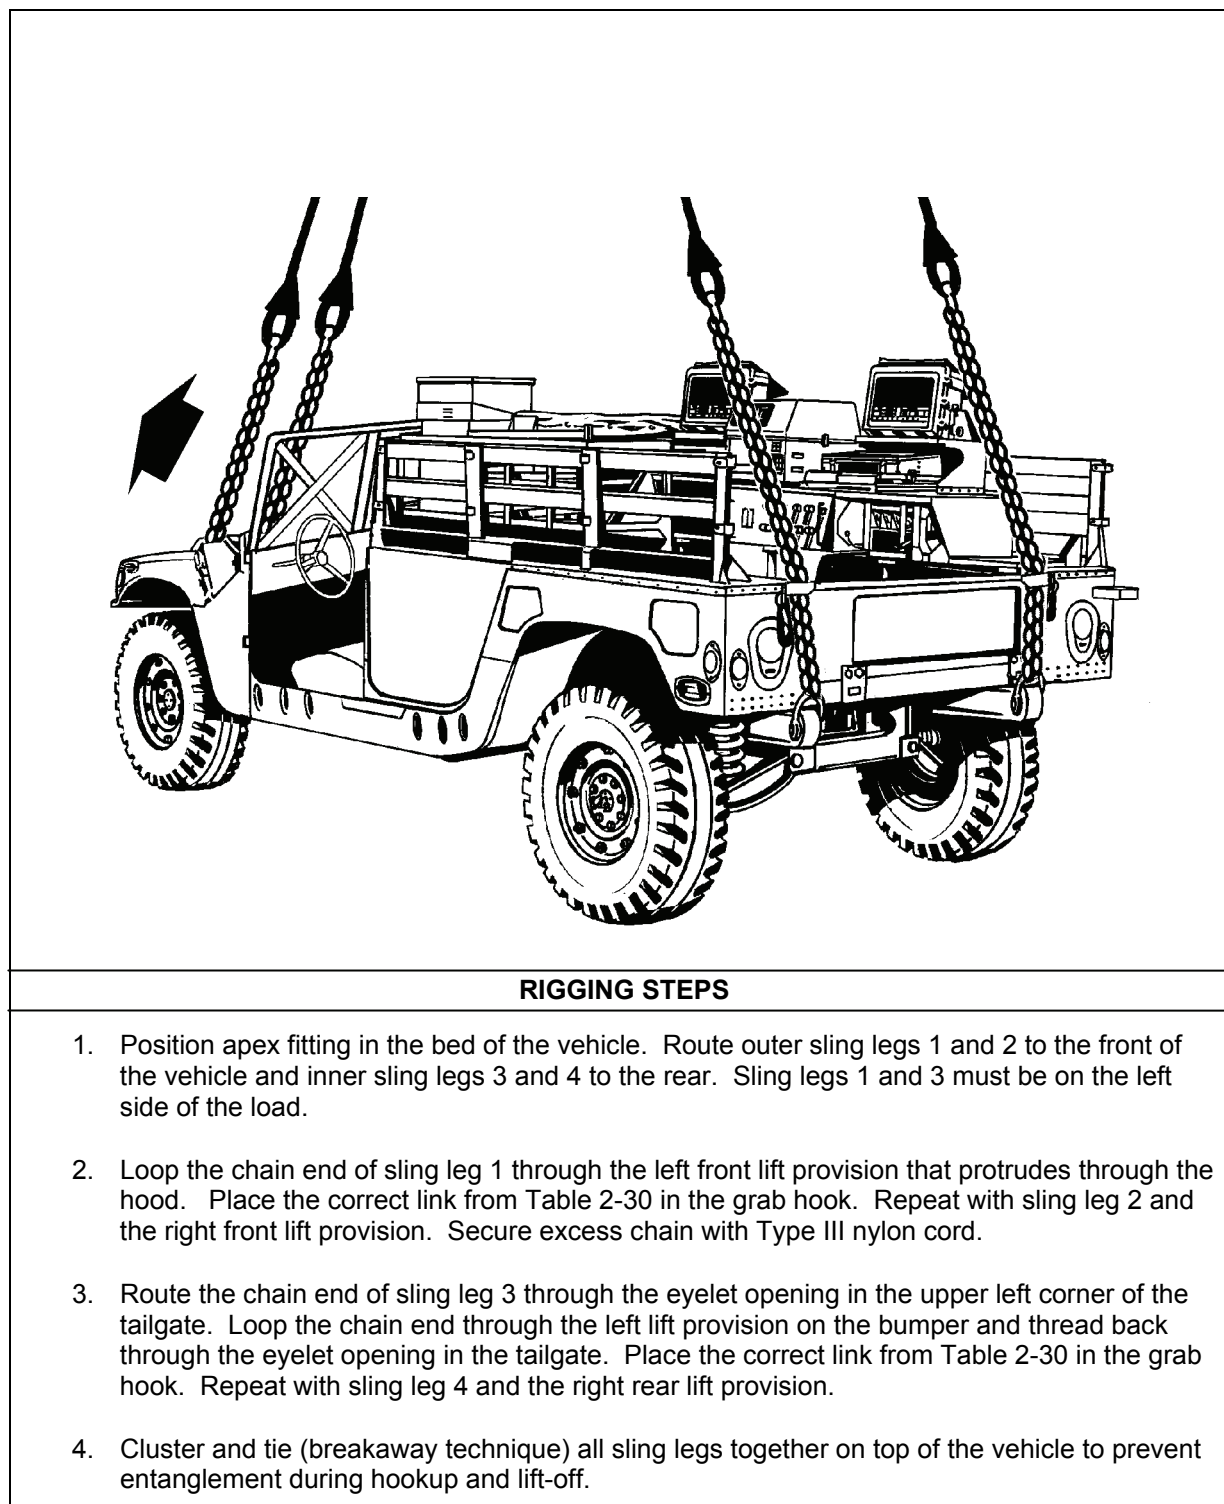

Figure 2-29. M998/M1038 with LTACFIRE or TTCS
- **Rigging.** Rig the load according to the steps in Figure 2-29.